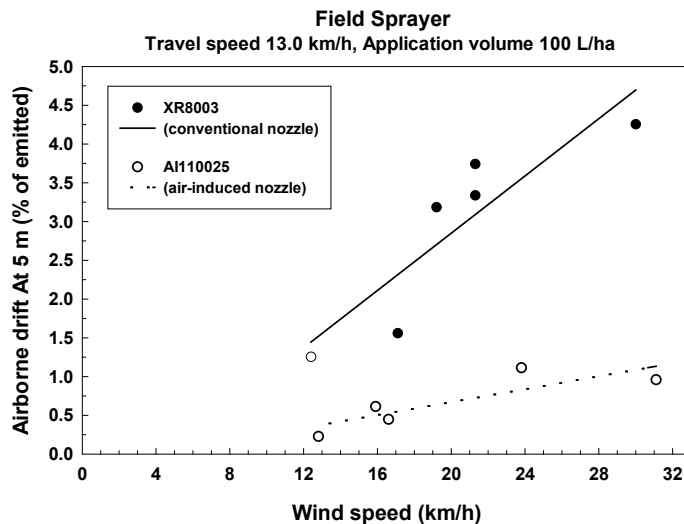

Figure 2: Effect of droplet size on off-target spray drift. Boom height was 60 cm.
- **Nozzle Types:** Conventional flat fan nozzles or hollow cone nozzles can be quite drift prone. Low-drift nozzles are available from many manufacturers. These use a combination of pressure and flow rate to produce a spray that can reduce drift from 50 to 95 per cent for a given flow rate (Figure 2). Many of these nozzles can be operated at higher pressures without increasing drift potential significantly. This is one of the most important and widely used means of drift reduction for ground application, and will be discussed in more detail at the end of this presentation.